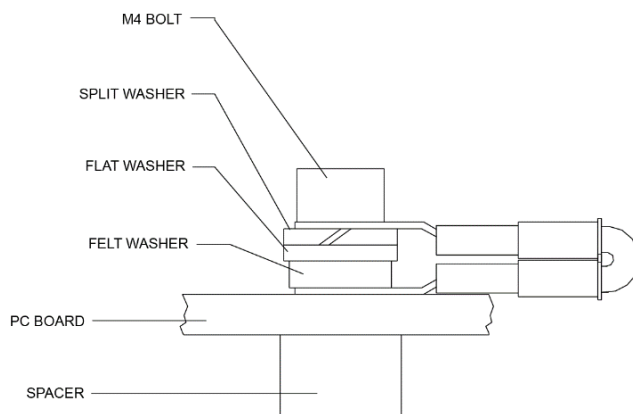
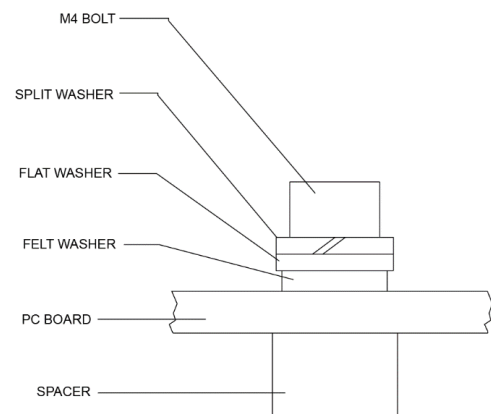

Figure 57. Ground Jumper
Figure 58. Mounting Hardware
2. Remove the four brass thumbnuts from the M4 bolts that secure the spare board set together. You will be using these bolts to secure the boards in your system. **DO NOT** change the position of any of the bolts. The bolts containing the felt washers and ground jumper must remain in the same position (see Figure 57 and Figure 58).